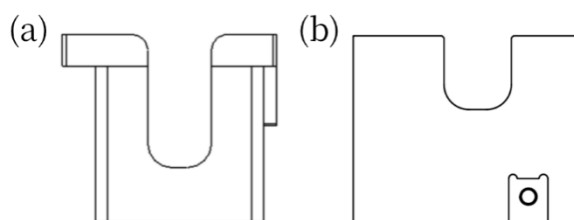
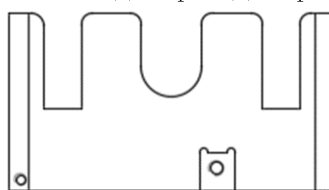

Figure 9 S/M EID (a) adapter (b) adapter holder
Figure 10 L EID adapter
- Do not use any adapters or components that are not specified by the system. Before isolating a sample, select an appropriate EID and a EID adapter based on the sample type and volume. If S or M EID is to be used, please use S/M EID adapter and adapter holder (Figure 9). If L EID is to be used, please use L EID adapter (Figure 10)., as shown in Figure 4-1, and then select the EID type on the startup page.